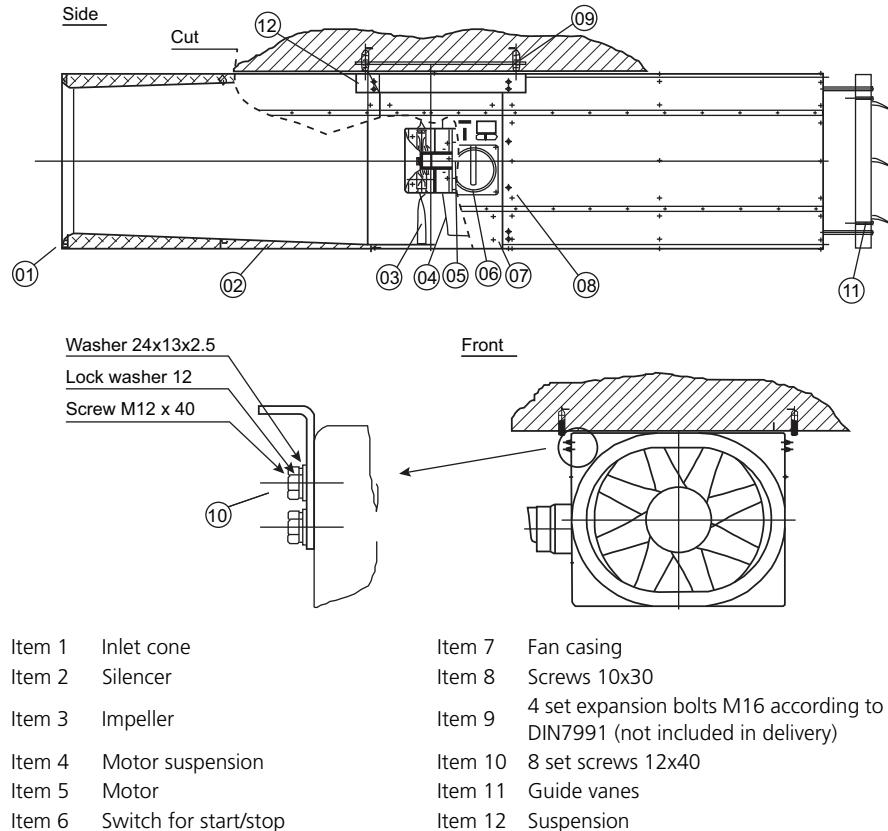

Figure 1. Main components for tunnel fans type AUC/ARC
The air flow must be unimpeded and free from eddies to secure performance and low sound level. See figure 1 for installation.
- 2 Remove the nuts (figure 1, item 10) and take down the fan from the ceiling.
- 3 Remove screws for silencers (figure 1, item 08) and dismount the silencers (item 02).
- 7 Dismount impeller (figure 1, item 03) with a puller fastened in the two threaded holes of the hub boss.
- 2 Mount the impeller (figure 1, item 03) on the motor shaft with the screws fastened in the threaded hole of the motor shaft. Fix the impeller hub to rest against the motor shaft collar. Check that the blade clearance is the same throughout the circumference of the casing. If this is not the case, adjust the motor position in the suspension arrangement.
- 5 Mount the silencers (figure 1, item 02) to fan casing with the set screws (item 08). Tightening moment for bolts (item 08) M10: 30 Nm  $\pm 10\%$
- 6 Mount the fan to the ceiling with the eight nuts (figure 1, item 10). Tightening moment for bolts (item 10) M12: 50 Nm  $\pm 10\%$
- 7 Connect the motor cable in the switch (figure 1, item 06).